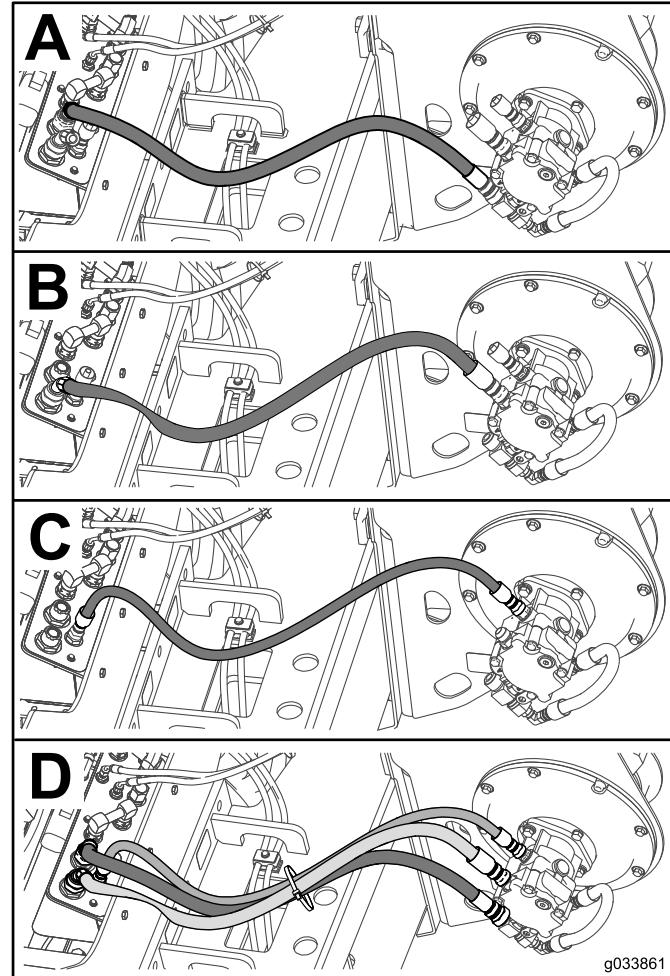

Figure 10
1. Install the 50-inch hose with the F16 fitting as shown in Box A of Figure 10.
4. Install the other 50-inch hose with the F12 fitting as shown in Box B of Figure 10.
7. Install the 46-inch hose as shown in Box C of Figure 10.
10. Secure the hoses with a cable tie (Box D of Figure 10).